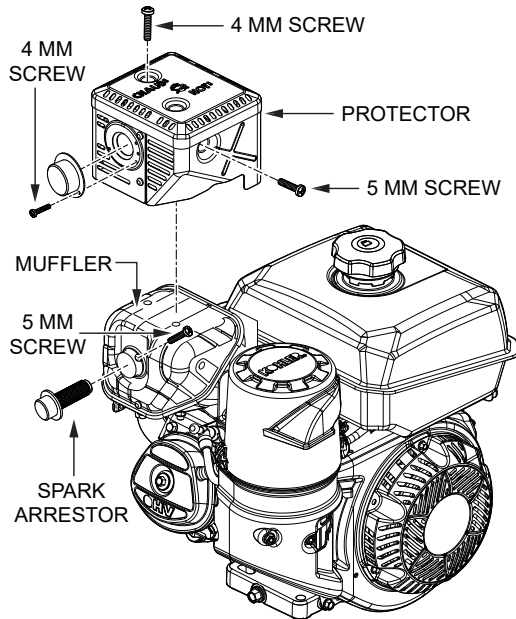

Figure 36. Spark Arrester
1. Remove the 4 mm screw (3) from the exhaust deflector (Figure 36), then remove the deflector.